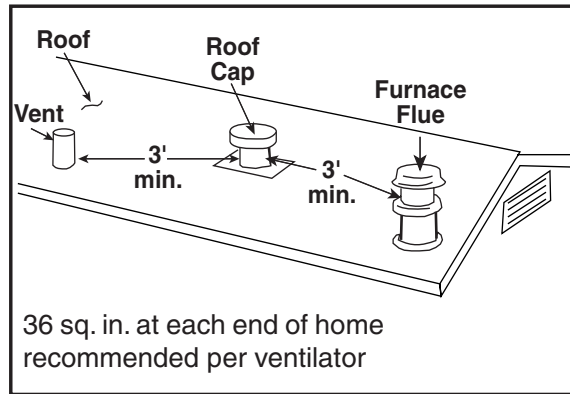

Figure 4. Roof Spacing
4. Determine location of roof opening. The roof cap assembly should be located as closely as possible to the center of the home, allowing connection of the fresh air intake to the furnace using the 11-foot length of flexible duct provided (See Figure 4) on page 4.